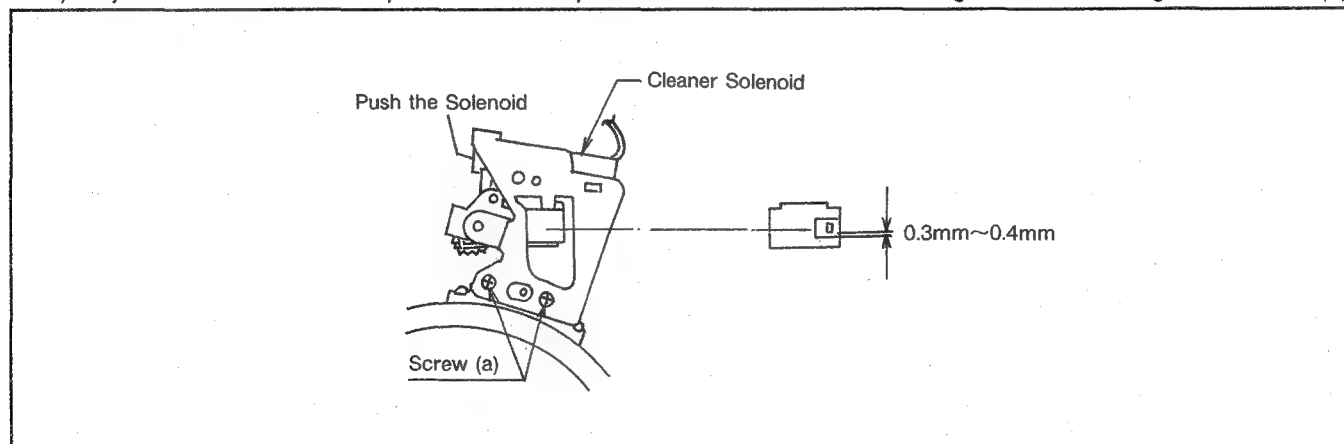

Fig. 7-13-1
- 2) Adjust the head cleaner unit position so that A portion is 0.3 - 0.4mm as shown in figure 7-13-1. And tighten 2 screws (a).